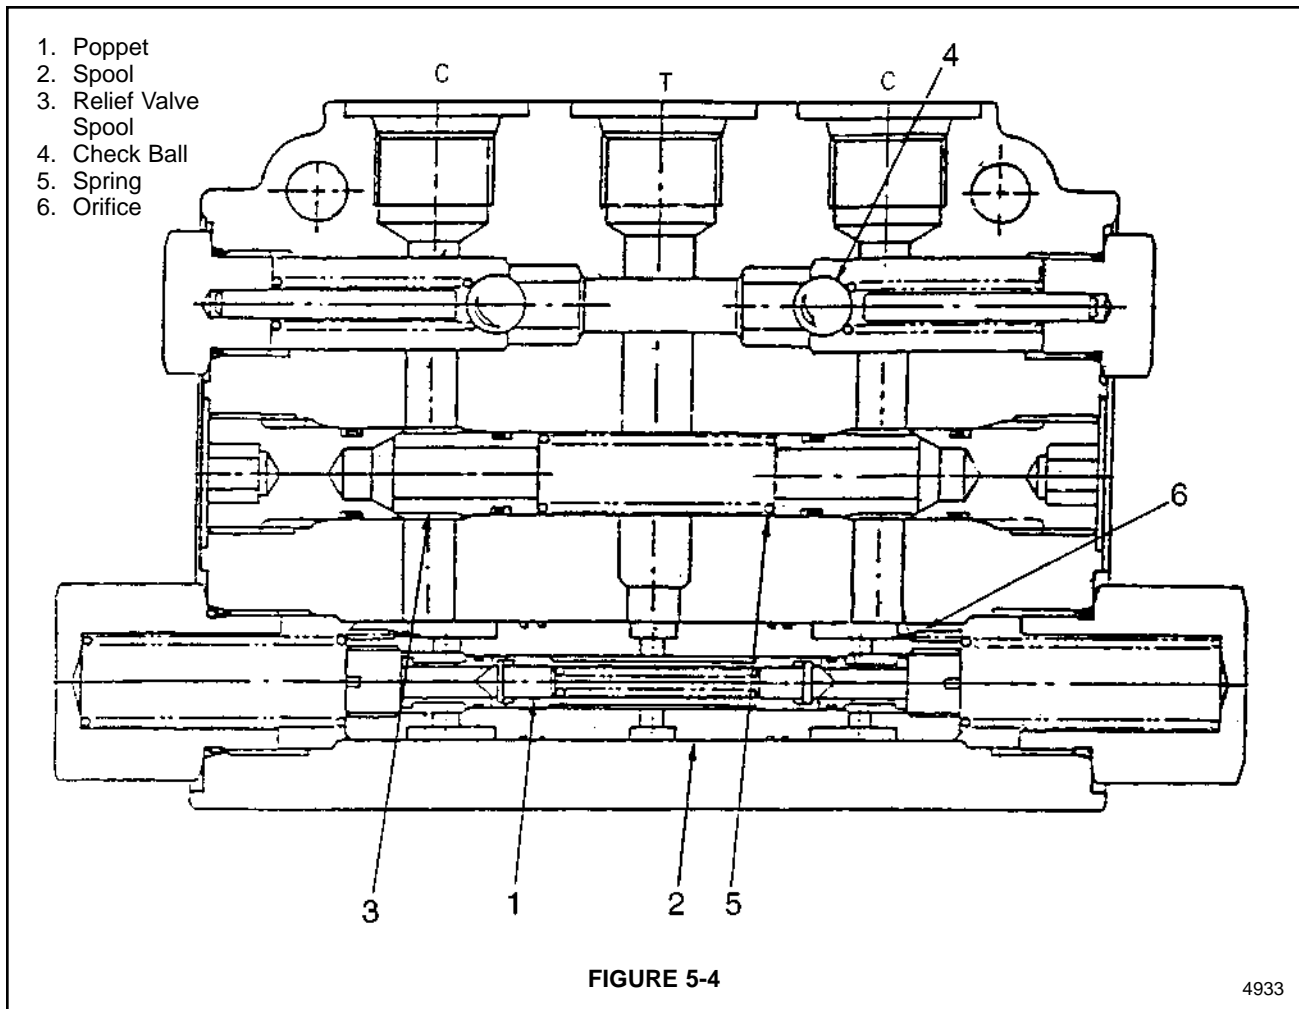

FIGURE 5-4
The C ports in the cushion valve are connected in parallel to the steering cylinders. Port T in the cushion valve is connected to the tank line. See Figure 5-4. If a high pressure spike caused by
steering inertia is fed back to one of the C ports, the poppet (1, Figure 5-4) compresses its spring and directs the high pressure oil to the tank port T. Oil then pushes the spool (2) to close the passage to port T. This opens a path to the relief valve piston (3, Figure 5-4). Oil presses the piston (3) against its spring until a path is opened to the tank port T. This releases the pressure and protects the circuit components by keeping the maximum pressure below the desired level. If a vacuum is created in the opposite C port, oil will be drawn from the T passage, through the check ball (4). This will prevent cavitation.